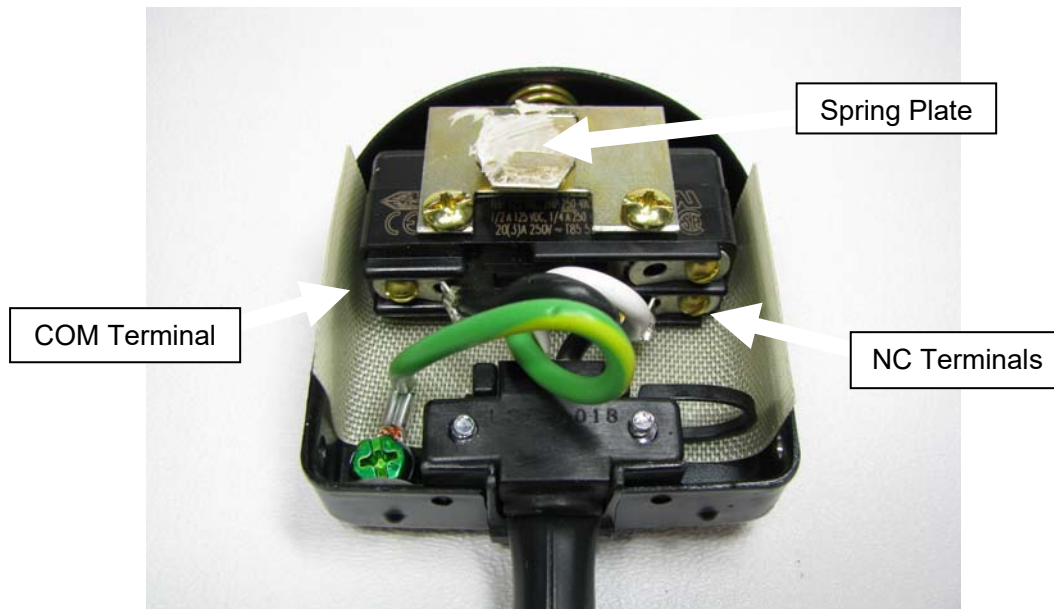

Fig 23
4. Use a flat or Phillips screwdriver to remove the two screws on the sides of the pedal and remove the top. **See Fig 23.**